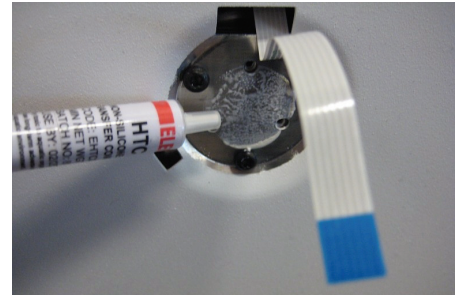

Figure 4: Apply heat paste
4. See Figure 4. Apply a thin coat of cooling paste from the supplied tube to the area where the new LED will sit.